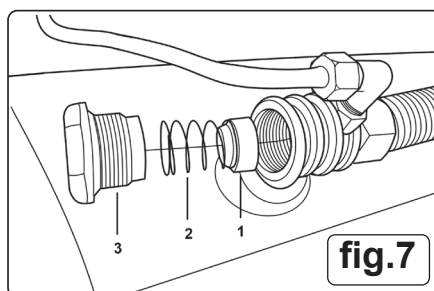

fig.7
- 5.8. You can now begin to use the tool. The compressor will operate automatically cutting in and out as required to restore the air pressure in the tank. The pressure switch (fig.7) stops the motor when the maximum tank pressure is reached and restarts it when pressure falls below the minimum threshold - approx. 2 bar (29psi) less than the maximum pressure.